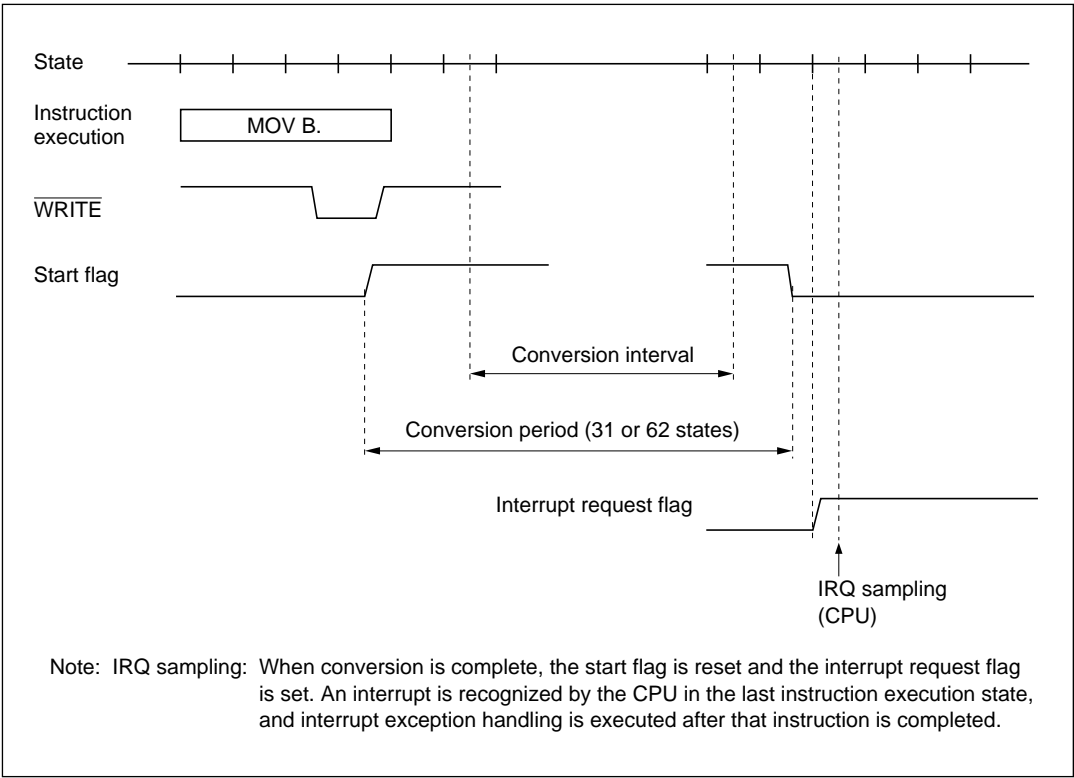

Figure 10-2 Internal Operation of A/D Converter
2. A/D conversion starts after a value of 1 is written to ADSF. The conversion period starts when the start flag is set and ends when it is reset upon completion of conversion. The actual time during which sample and hold are repeated is called the conversion interval (see figure 10-2).